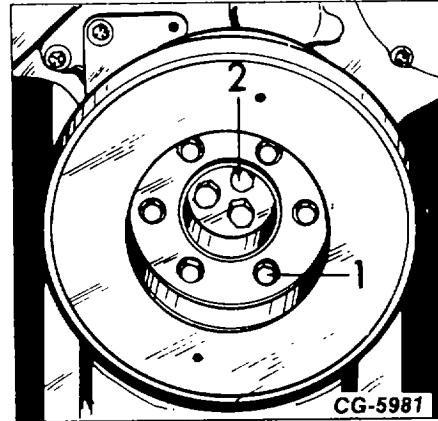

Figure 11. - Viscous Vibration Damper
- a. Remove the cap screws (1, Fig. 11) which secure the viscous damper to the crankshaft pulley and remove the damper.
- b. Remove the cap screws (2, Fig. 11) with then retainer plate securing the crankshaft pulley to the crankshaft, as shown.